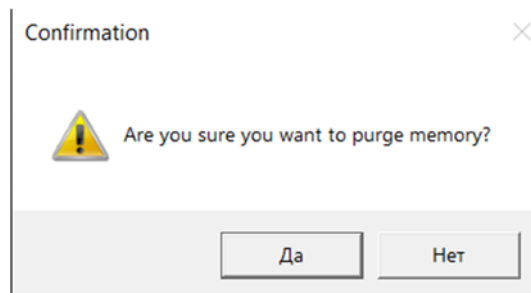

Figure 15 - Memory Clear Confirmation
5.3 Click the “OK” button, after which the "Confirmation" message will be displayed (Figure 15).